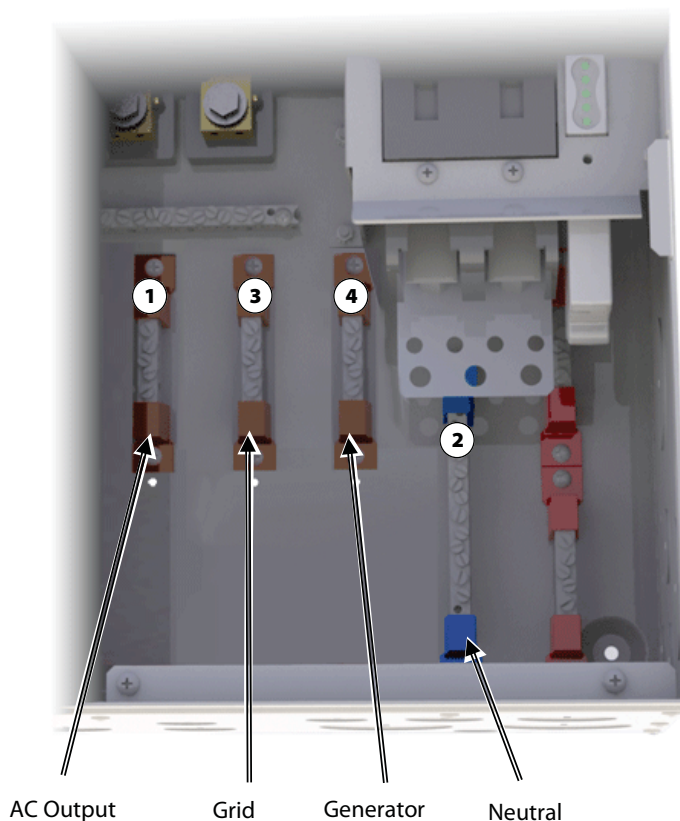

Figure 35 AC Terminal Bus Bars (single-phase)
The neutral insulator in Figure 35 is in the position which opens the bond.
If the GSLC has no bypass assembly, connections should be made directly to each TBB from the circuit breakers for the inverter, AC sources, and loads. These connections are designated in Figure 35.
1. Designate the topmost AC circuit breaker as the inverter AC output disconnect. Install a wire from the AC output circuit TBB (as shown in Figure 35) to that disconnect as marked by **1**.
3. Designate the third AC circuit breaker as the disconnect for one AC source (**GRID** or **GEN**). Install a wire from the TBB of the appropriate source circuit (as shown in Figure 35) to the left side of that disconnect as marked by **3**.
6. Install a wire on the inverter's **NEU** terminal and connect it to the GSLC's neutral TBB (as shown in Figure 35). *Only one neutral connection is required.*